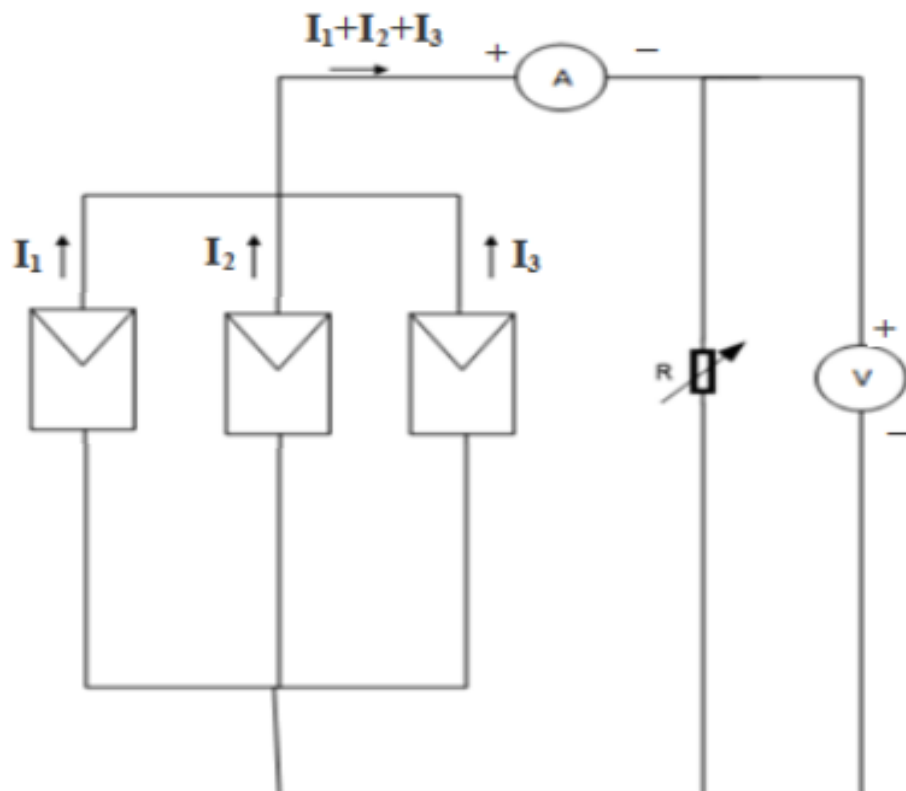

Figure 16.5 Solar cells in parallel
3. Connect a potentiometer to the output of the parallel connection shown in Figure 16.5